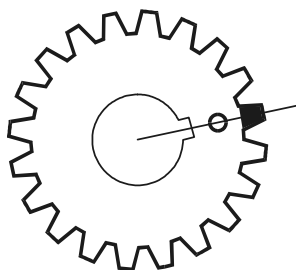

Figure 66 – Countershaft Drive Gear Timing Mark Location
- a. Prior to placing each countershaft assembly into the case, clearly mark the tooth located directly over the keyway of the drive gear as shown in Figure 66. This tooth is stamped with an 'O' to aid identification.